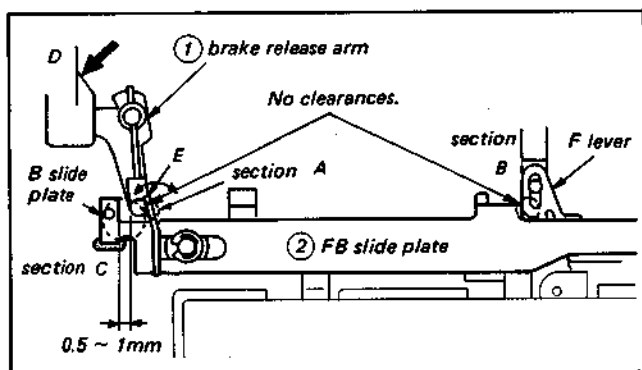

Fig. 3-36. Position adjustment of FB slide plate
- The FB slide plate shown in Fig. 3-36 releases the take-up, the supply, and the soft brakes.
2. Bend section E of FB slide plate ② so that the specification (0.5 to 1mm) of section C when brake release arm ① is pushed in the direction of arrow D so that the clearances at sections A and B are eliminated.